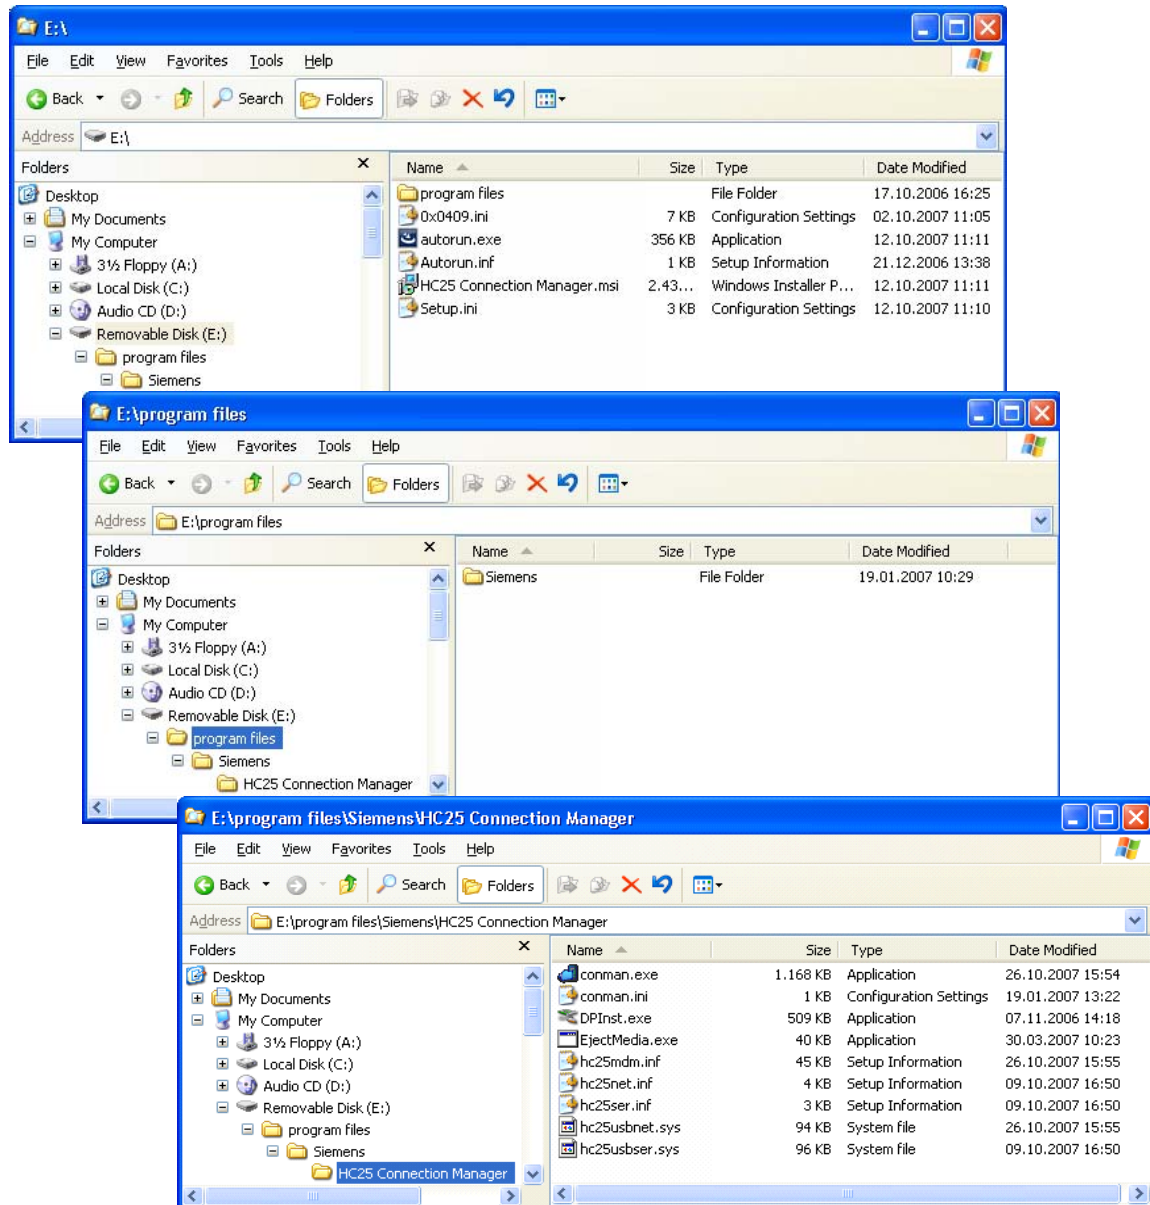

Figure 4: Folder tree of HC25 driver package
2. Copy or unpack the new driver package to any folder on your Windows XP computer. The folder tree must be the same as shown in Section 2.10.3, Figure 4. Therefore, do not copy or unpack the files into one folder only.
The folder tree must be the same as shown in Section 2.10.3, Figure 4. Therefore, do not copy or unpack the files into one folder only.